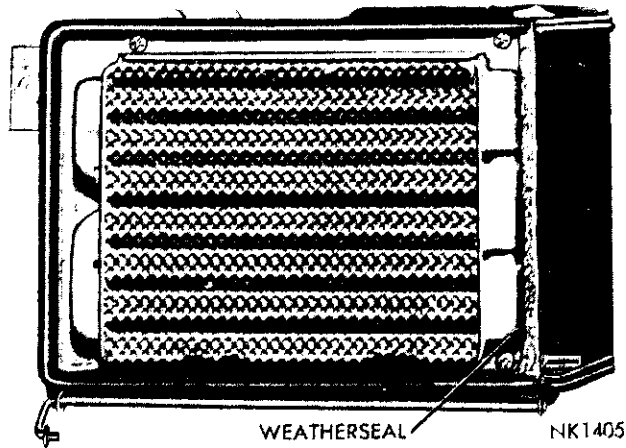

Fig. 11—Weatherseal Positioned
(1) Place a small bead of sealer in heater housing flange.
(2) Install heater core in the heater housing and secure the four attaching screws.
(3) Cement the weatherseal on the inner lip of heater core flange (Fig. 11).
(4) Place a small bead of sealer on heater housing cover.
(5) Position both housing halves together and install the eleven retainer spring clips. Remove any excess sealer.
(6) Cement fresh air inlet seal into position.
(7) Install operating link between bellcrank and recirculating door. Adjust if necessary. With recirculating door closed, fresh air door should be fully open.
(8) Install fresh air recirculating actuator.
(9) Position heater assembly in the vehicle and proceed as follows: